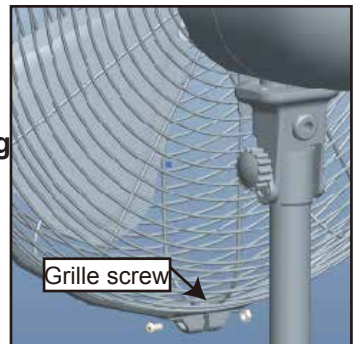

Figure 16.
8. Retighten the **Screw** to secure the **Grille Ring** over the **Front and Back Grilles**. **Figure 16.**